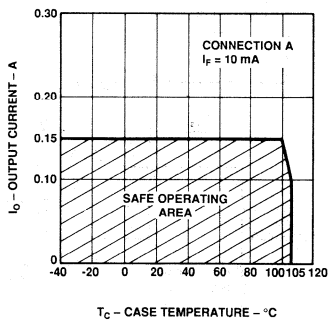
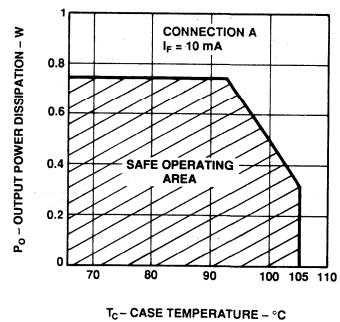

Figure 2B. Maximum Average Output Current Rating vs. Case Temperature.
Figure 3. Output Power Derating vs. Case Temperature.
- For derating, see Figure 3. The output power P_O derating curve is obtained when the part is handling the maximum average output current I_O as shown in Figure 2.
Derating curves are shown in Figures 2 and 3. Figure 2 specifies the maximum average output current allowable for a given ambient or case temperature. Figure 3 specifies the output power dissipation allowable for a given case temperature. Above a case temperature of 93°C, the maximum allowable output current and power dissipation are related by the expression $R_{SS} = P_O(\max)/(I_O(\max))^2$ from which R_{SS} can be calculated. Staying within the safe area assures that the steady state junction temperatures remain less than 125°C. As an example, for a case temperature of 100°C, Figure 3 shows that the output power dissipation should be limited to less than 0.5 watts. A check with Figure 2B shows that the output current should be limited to less than 150 mA. This yields an R_{SS} of 22 Ω .